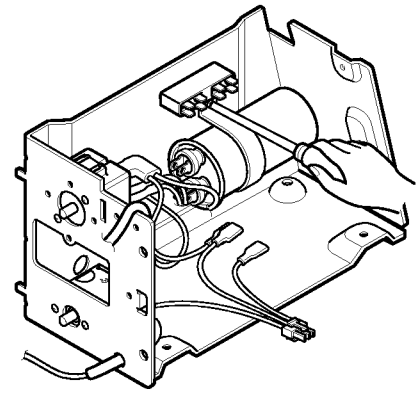

Figure 13
4. Re-install the components by referring to the above removal procedure. (See figure 13)